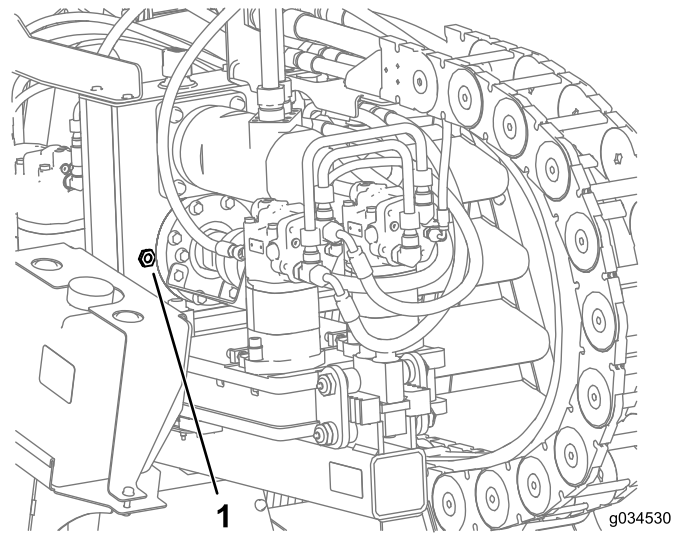

Figure 96
2. Check the oil level on the sight-glass on the gearbox drive (Figure 96).
3. Remove the breather cap and add the oil into the gearbox drive until the oil level on the sight-glass is at least half full (Figure 96).
6. Fill the gearbox with oil until the oil level in the sight glass is more than half full (Figure 96).